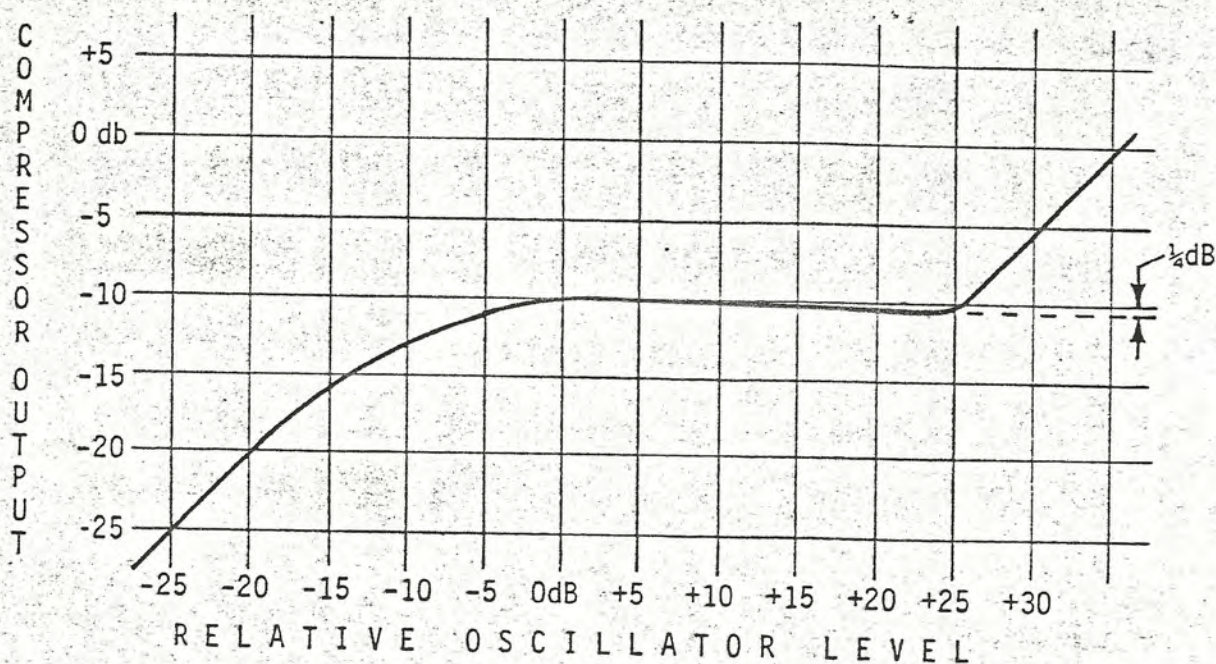

Figure 2 - Compression Linearity Adjustment
5. Advance the oscillator amplitude, noting the AC voltmeter reading. As the oscillator level is increased, the output should follow to a point, level-off for a period, then finally resume following the oscillator. Compressor "Linearity" control, R46, should be adjusted for the 0.25dB maximum droop in the flat portion of the above-indicated compressor transfer curve shown in Figure 2, next page.